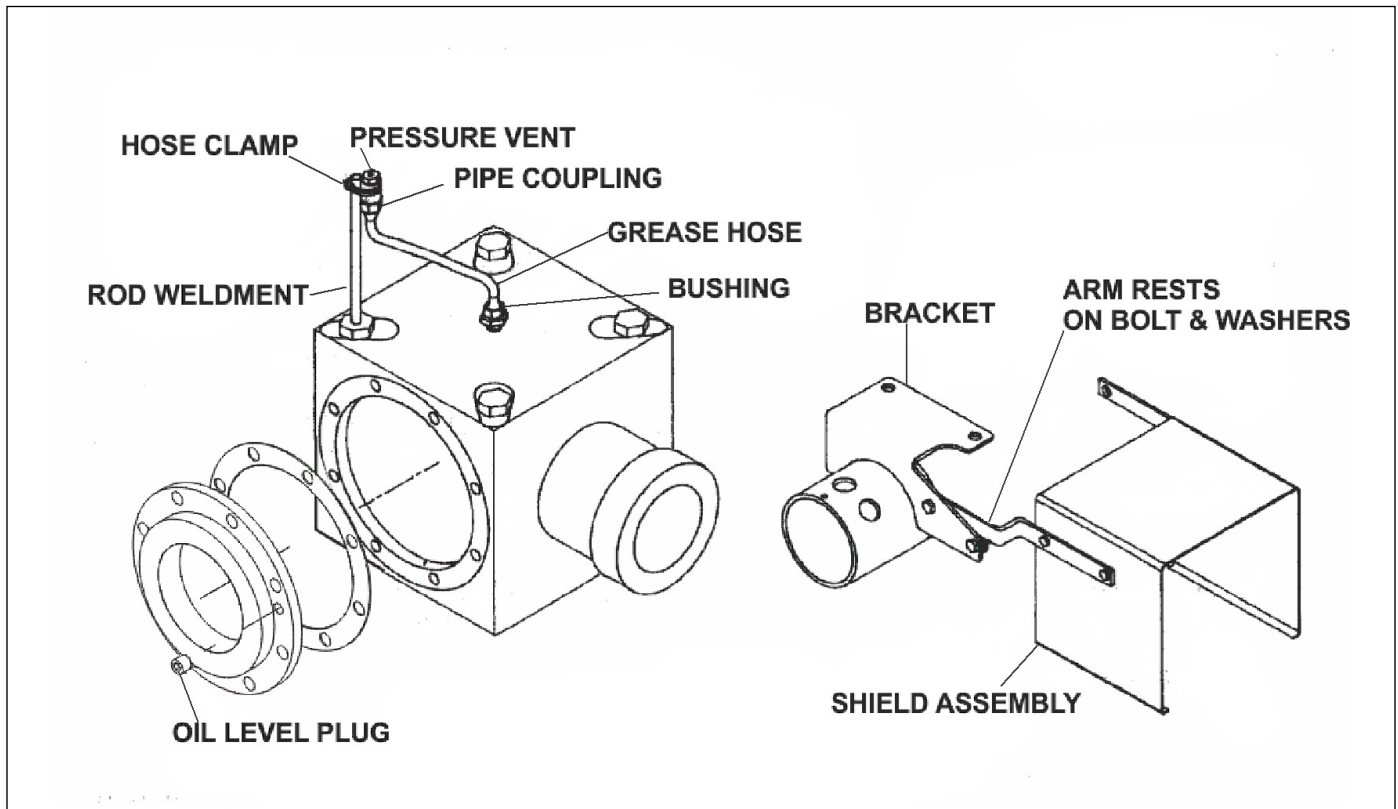

Figure 2-5: Gearbox
The machine is shipped with no grease in the gearbox. On the side of the gearbox you will find a plug located in front of the output shaft. Fill to the bottom of the plug hole with the proper lubricant. Use SAE 140 EP when the temperature is above 32 degrees, and SAE 90 EP when the temperature is below 32 degrees. Do not overfill with lubricant. See Figure 2-5.
- Remove pressure vent from gearbox. Reassemble vent and extension components. See Figure 2-5. (If machine is operated with pressure vent mounted directly into the box, a small amount of lubricant might leak from the breather plug).